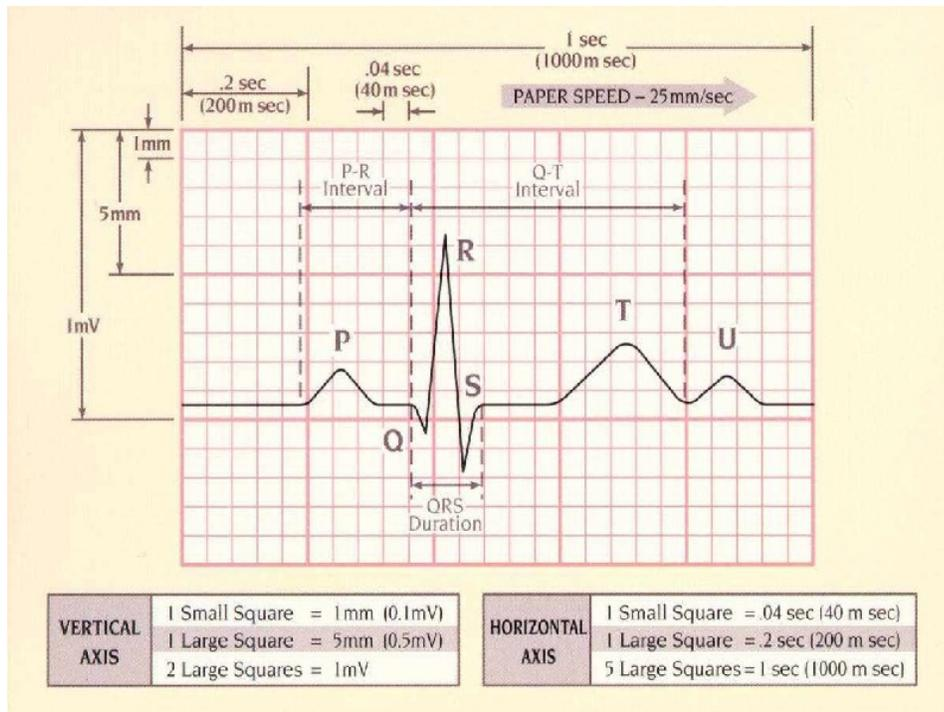

Figure 1: ECG waveform
- VII. You might want to compare your waveform with Figure 1.